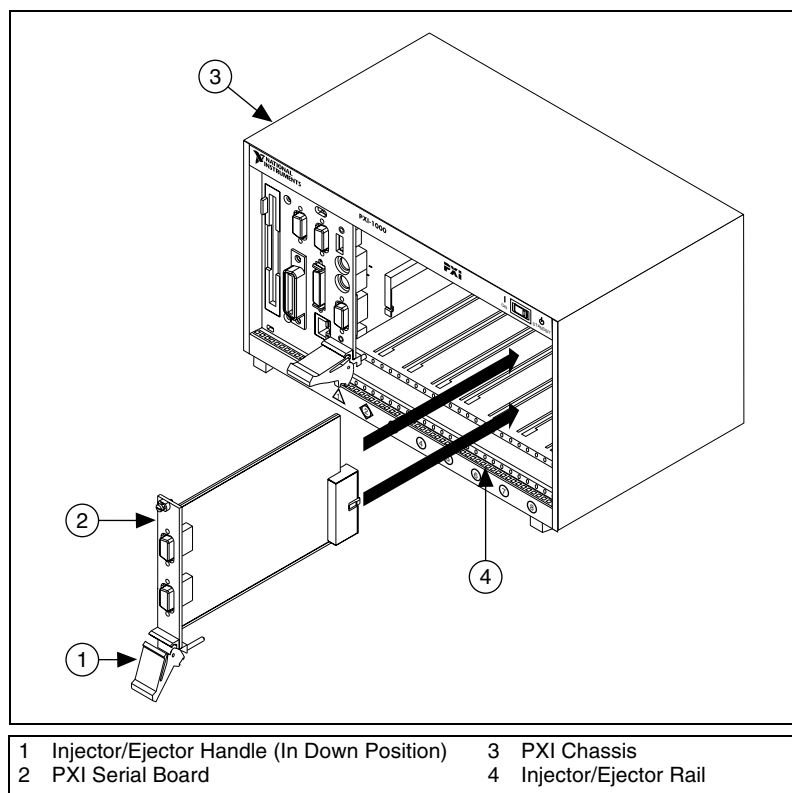

Figure 3-9. Installing the PXI Serial Board
5. Insert the PXI serial board into the 5 V slot. Use the injector/ejector handle to fully inject the device into place. Figure 3-9 shows how to install the PXI serial board into a PXI or CompactPCI chassis.